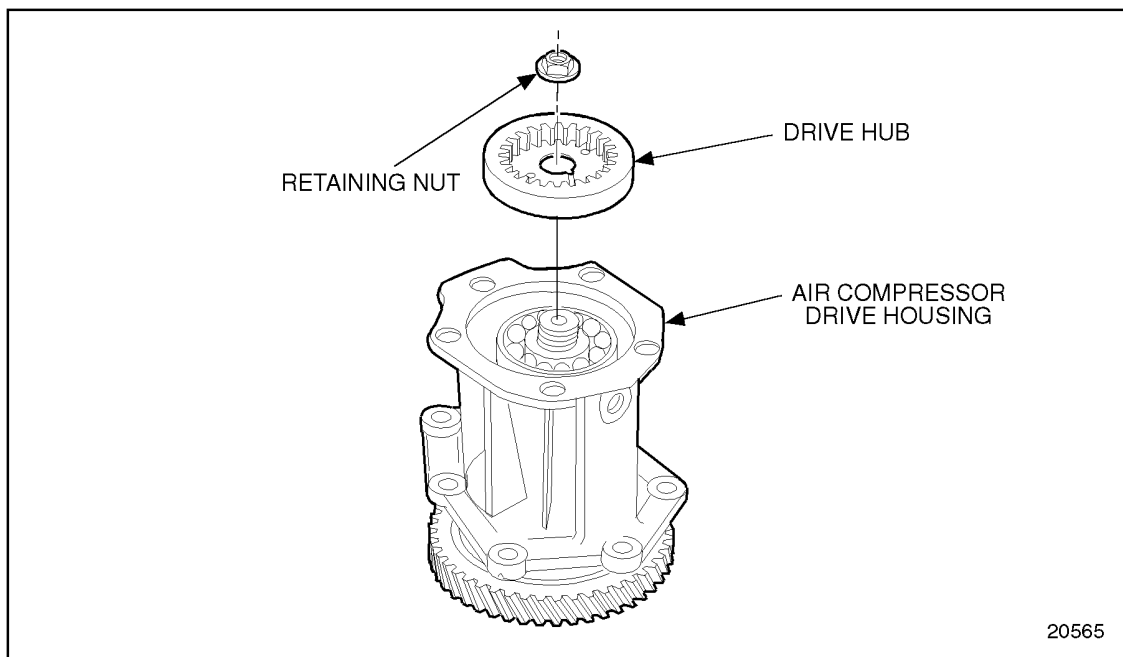

Figure 10-23 Drive Hub Installation
18. Place the air compressor drive hub on the drive shaft. See Figure 10-23.